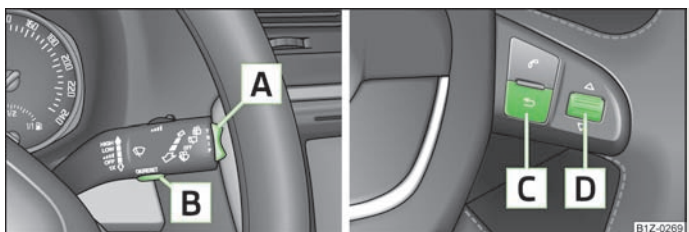

Fig. 7 Information display: Control elements on the windshield wiper lever/
- You can activate the **Main menu** by pressing the rocker switch **A** » Fig. 7 for more than 1 second.
- You can activate the **Main menu** by pressing the rocker switch **C** » Fig. 7 for more than 1 second.
- If warning messages are shown in the information display, these messages must be confirmed with the button **B** » Fig. 7 on the windshield wiper lever or with the button **D** on the multifunction steering wheel to call up the main menu.